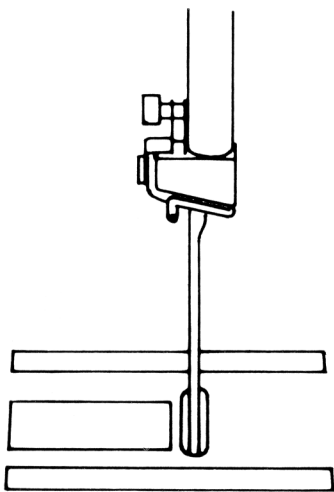

Fig. 5b
- Move the complete bolt 16 together with the needle bar frame 17 forward or backward until the needle is centered exactly in the needle plate slot (fig. 5b).